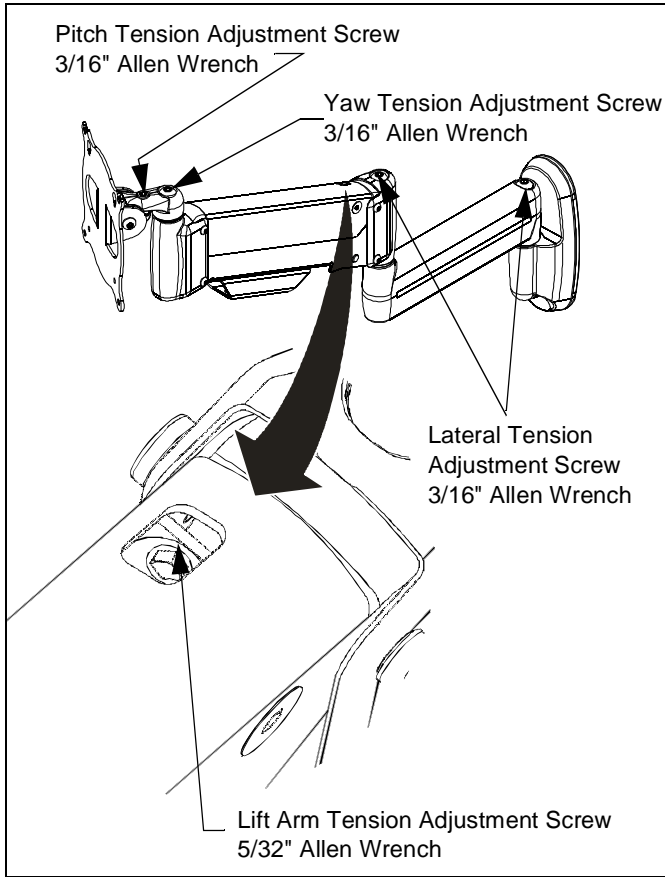

Figure 9: Tension Adjustments
- Slightly tighten or loosen the appropriate tension adjustment screw using a 3/16" allen wrench. (see figure 9)
- Raise or lower the lift arm until tension adjustment screw appears in the opening. (see figure 9)